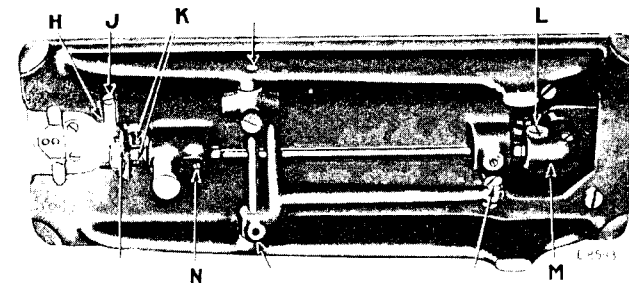

Fig. 6. Base of Machine, Showing Oiling Points
Turn the machine back on its hinges and apply oil at the places shown by arrows in Fig. 6.
Occasionally remove the large screw (L, Fig. 6) and fill the gear case (M, Fig. 6) with Singer Gear Lubricant, a grease which is especially prepared for this purpose, then replace the screw (L).